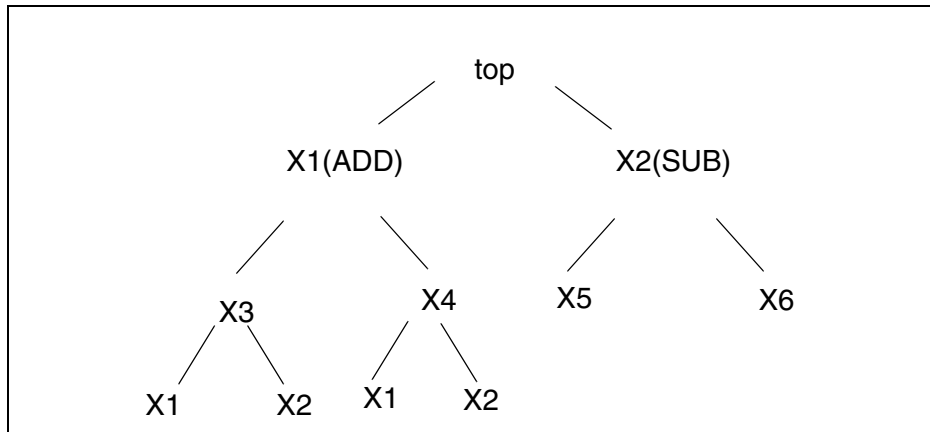

Figure 17 Node Hierarchy
*Example 1* The following example outputs X1.X4 node signals only; see Figure 17.
The following example outputs top, X1, X1.X4, X1.X4.X1, X1.X4.X2, and X2. (See Figure 17 on page 651.)
The following example outputs top, and skips X2. X1 because they are instances of the ADD subcircuit. (See Figure 17 on page 651.)
*Example 1* Outputs top, X1, and X2. (See Figure 17 on page 651.)
The following example outputs top, X1, X2, and X4, X1 and X2. (See Figure 17 on page 651.)